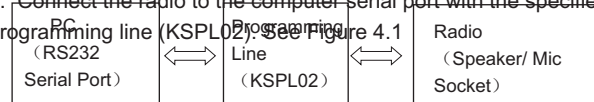

Figure 4.1
- b. Connect the radio to the computer serial port with the specified programming line (KSPLO2) as in figure 4.1
Connect the radio to the radio communication port with the specified programming line (KSPLO2). See Figure 4.1.